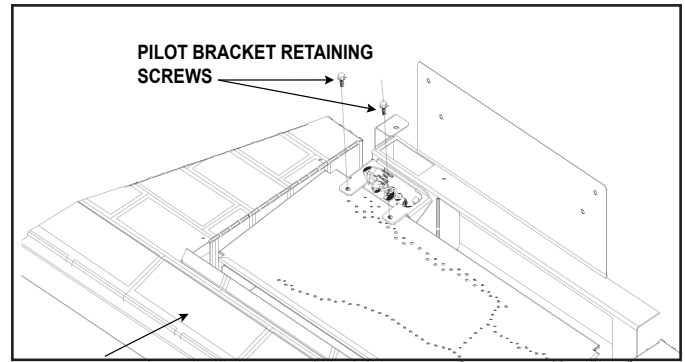

Figure 9.17
- Remove 2 pilot bracket retaining screws. See Figure 9.17.